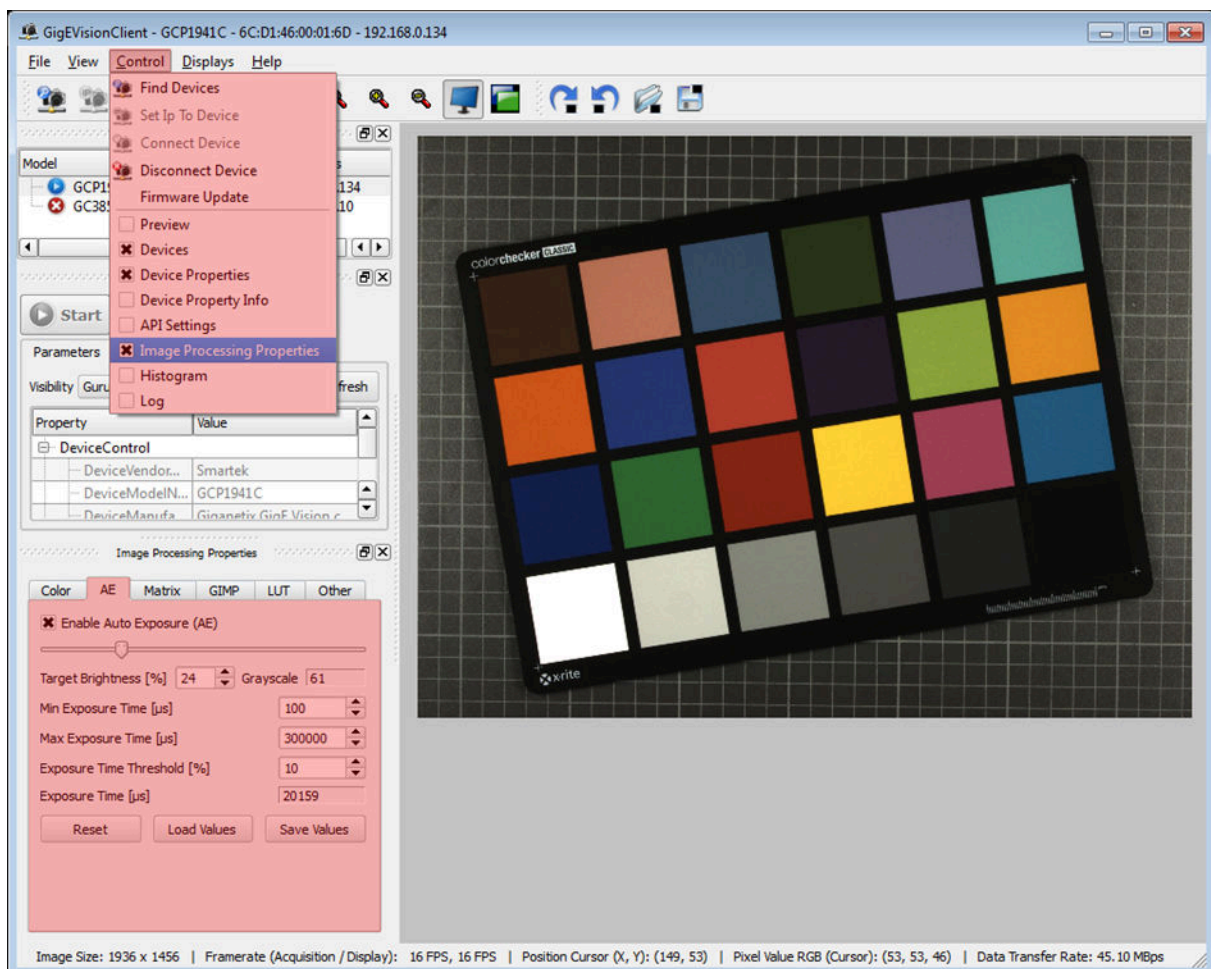

Figure 124: Auto Exposure in GigEVisionClient.
In the *GigEVisionClient* the *Auto Exposure* (AE) can be enabled / disabled in the *Image Processing Properties* panel under AE (see Figure 124). If not visible, the panel can be enabled by the menu bar entry *Control* \Rightarrow *Image Processing Properties*.